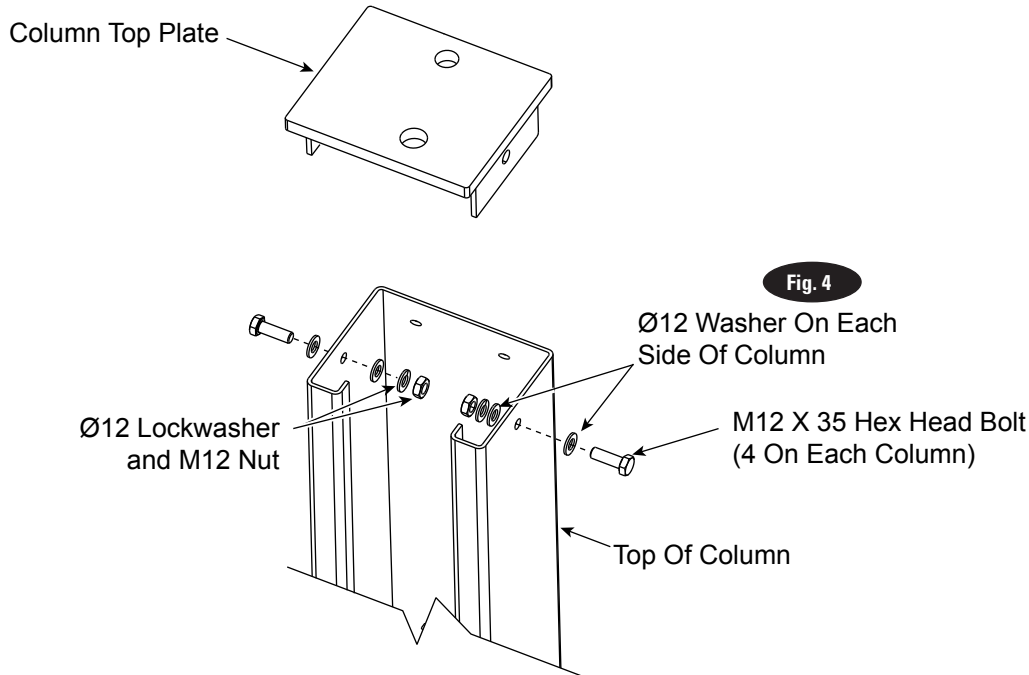

Fig. 4
A.) Remove Column Top Plate as shown, Fig. 4.